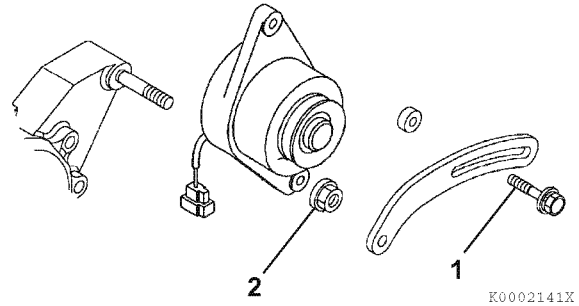

Figure 12-30
1. Position the dynamo on the gear case. Loosely reinstall the nut (2, **Figure 12-30**) on the gear case stud and the V-belt adjuster bolt (1, **Figure 12-30**).